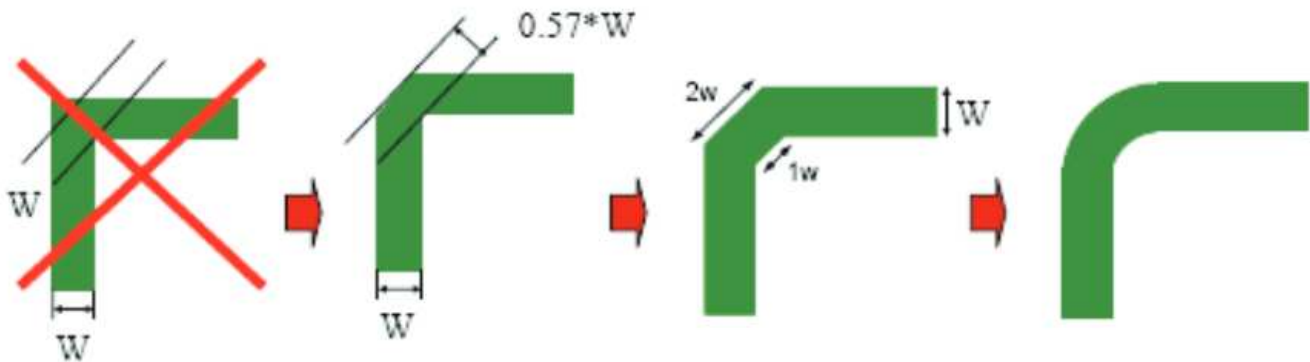

Figure 20. Poor and Good Right Angle Bends
- Avoid right-angle bends in a trace and try to route them at least with two 45° corners. To minimize any impedance change, the best routing would be a round bend (see Figure 20).